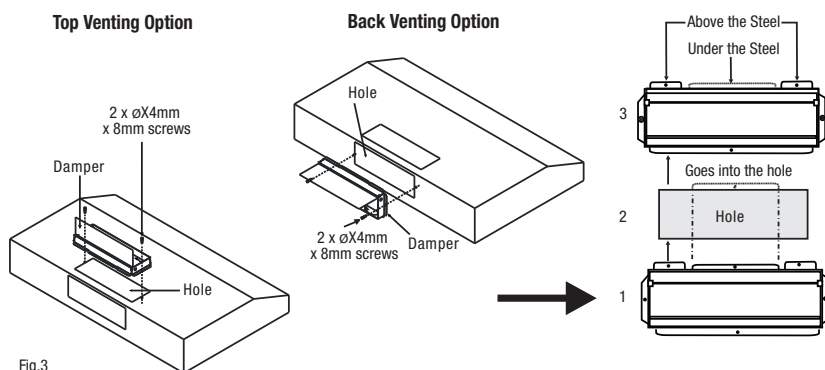

Fig.3
4. Install the damper with two 4mm x 8mm tapping screws (figure 3). If this hood replaces an existing unit, the location of the air exhaust can vary from one manufacturer to another. Make sure the damper fits in the existing opening before installing.